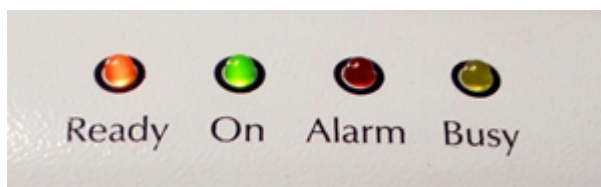

Figure 3. D4 top control lights.
4. Go to the front of the machine and press the green circular button. This enables the mains power and activates the sample handler (see *Figure 3*).